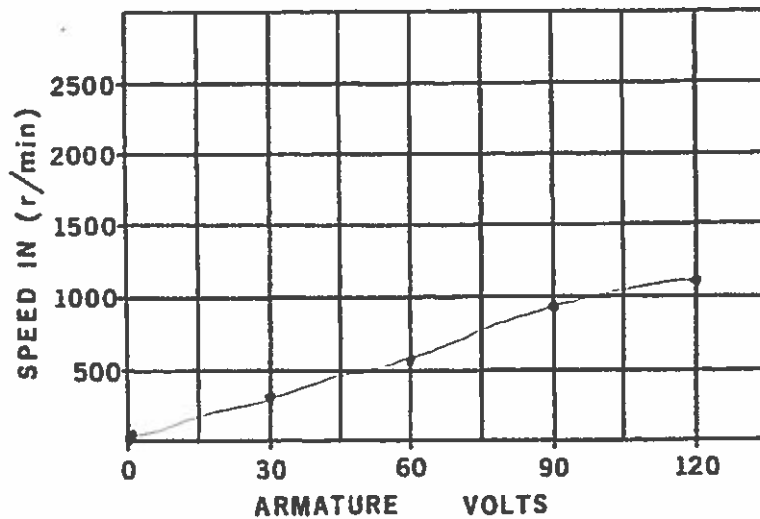

Figure 12-6.
- d. Plot each of the points from Table 12-1 on the graph shown in Figure 12-6. Draw a smooth curve through your plotted points.